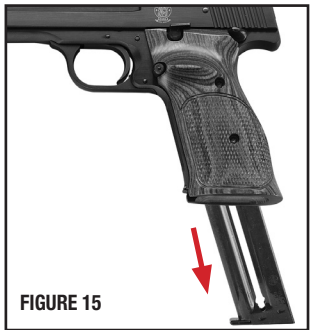

FIGURE 15
- Point the muzzle in a safe direction. Make sure your finger is off the trigger and out of the trigger guard. Verify that the manual safety is in the safe (up) position (FIGURE 14). Depress the magazine release, and remove the magazine (FIGURE 15).
- With the muzzle still pointing in a safe direction, and with your finger off the trigger and outside the trigger guard, grasp the sides of the slide from the rear with your thumb and fingers, and briskly draw the slide fully rearward in order to extract any cartridge from the barrel chamber and clear it from the pistol (FIGURE 15).